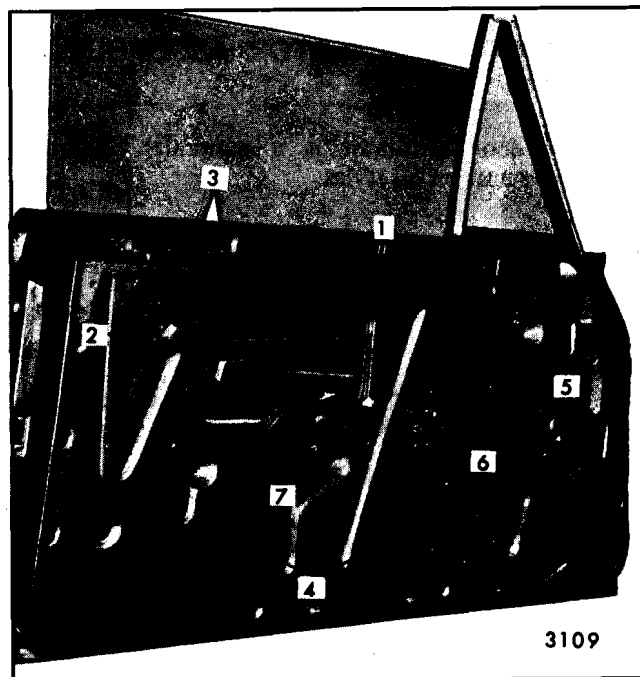

Fig. 6-69-Front Door Window Removal and Adjustments - "A-39" Styles
2. Operate window to a one-quarter down position; remove front up travel stop from lower sash channel and rear up stop from rear guide ("1" and "2", Figure 6-69).
3. Loosen rear guide to door inner panel attaching bolts ("3", Figure 6-69).
4. With window in a three quarter down position, remove screws securing lower sash channel cam to lower sash channel ("4", Figure 6-69).
1. A rotated window condition (glass cocked in opening) may be caused by any one or a combination of the following (Reference: Figure 6-69).
2. To adjust upper rear corner of window in or out in relation to side roof rail weatherstrip, loosen rear guide upper attaching bolts ("3", Figure 6-69) and position guide further inboard or outboard.
If this adjustment proves inadequate, obtain additional adjustment at the ventilator front frame adjusting stud ("5", Figure 6-69).
3. To adjust window up-travel, loosen front and rear upper stops ("1 and 2", Figure 6-69), then operate window to desired up position and tighten stop bolts.
4. Adjustment has been provided to relieve a binding door glass due to a misaligned ventilator division channel ("6", Figure 6-69).